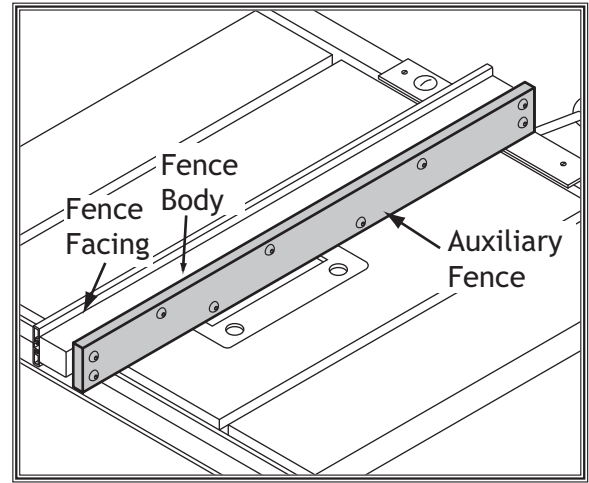

Figure 69. Auxiliary fence.
4. Use the mounting hardware that had previously attached the fence face to attach the auxiliary fence. The end result should be similar to **Figure 69**.